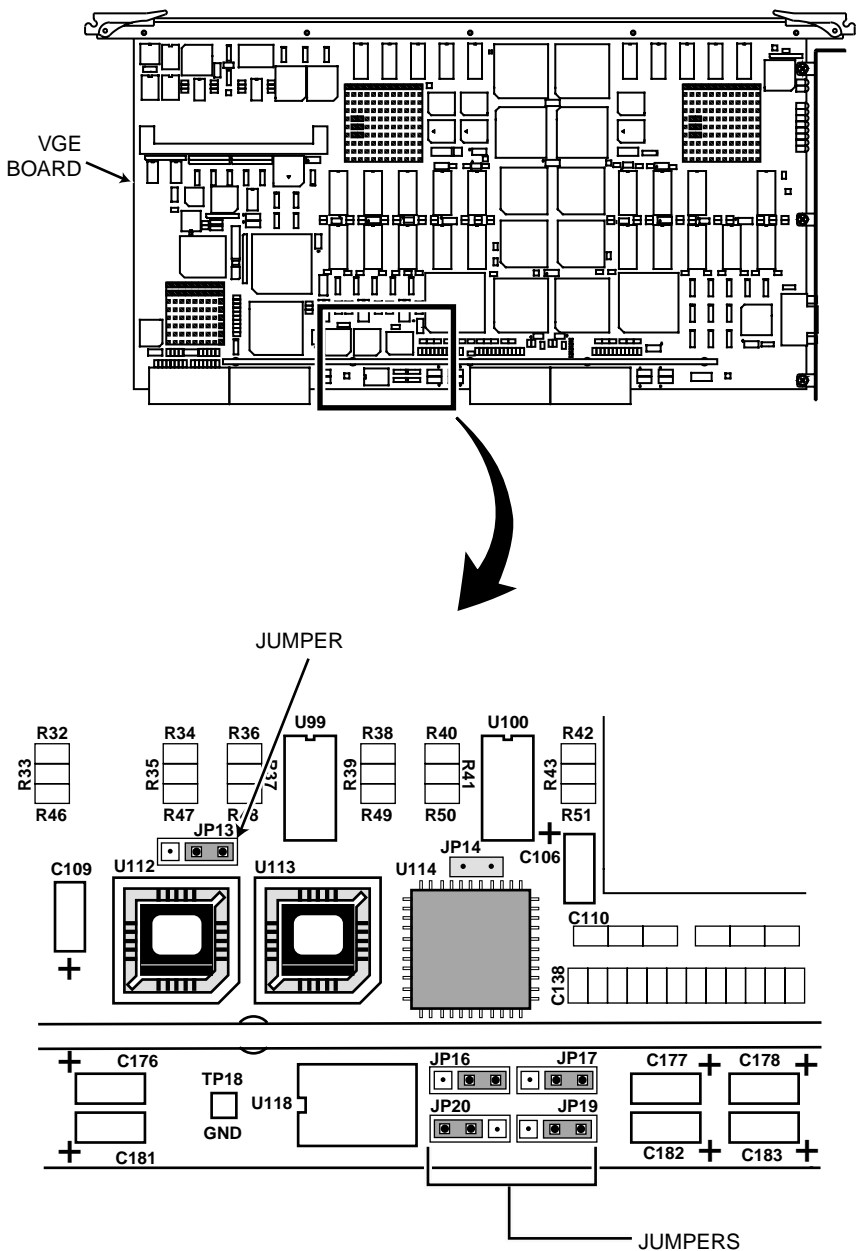

Figure 5-10. Jumper Settings for Standard Definition
The area that supports the fax modem board is located at the rear of the Duet chassis, behind the disk drive bay. Before installing the fax modem board, remove the Duet top cover (as previously described) if not already removed. Then, refer to Figure 5-10 to locate a PCI slot in the Duet chassis.
- [] 1. Refer to Figure 5-10. Using an appropriate screwdriver, remove the Rear Panel Cover Plate for the PCI slot the fax modem board will be installed in. *When viewed from the rear panel, each cover plate is slightly to the left of its matching board slot.* Retain the screw for installation of the fax modem board, and retain the cover plate for possible future use!
- [] 1. Refer to Figure 5-10. Using an appropriate screwdriver, remove the retaining screw from the rear panel bracket of the fax modem board. Retain the screw for cover plate installation!